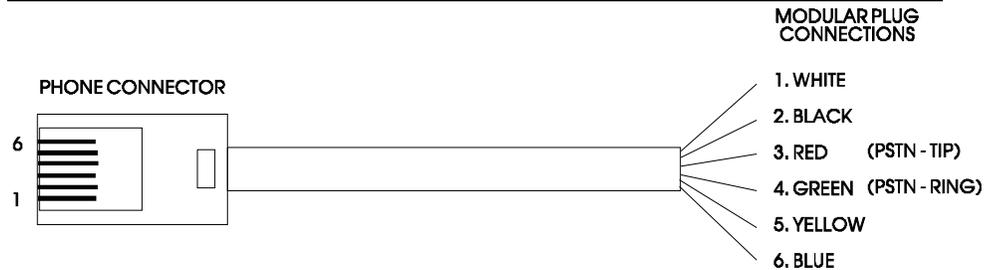

Figure 3-8. Wiring for Phone Connector
A PSTN using a master and three (3) remote ControlWave flow computers (each equipped with a 9600 bps - PSTN modem) is shown in *Figure 1-1*. You typically make the connection to the PSTN using a cable that has standard telephone connectors at both ends. Plug one end of the cable into connector J1 of the modem and plug the other end into a telephone wall receptacle. In some cases wires associated with a phone cable (un-terminated at one end - see *Figure 3-8*) may be plugged into modem connector TB1 (TB1-1 = PSTN-tip & TB1-2 = PSTN-ring). The telephone company provides the necessary subscriber loops at its central system along with the phone numbers for each destination.